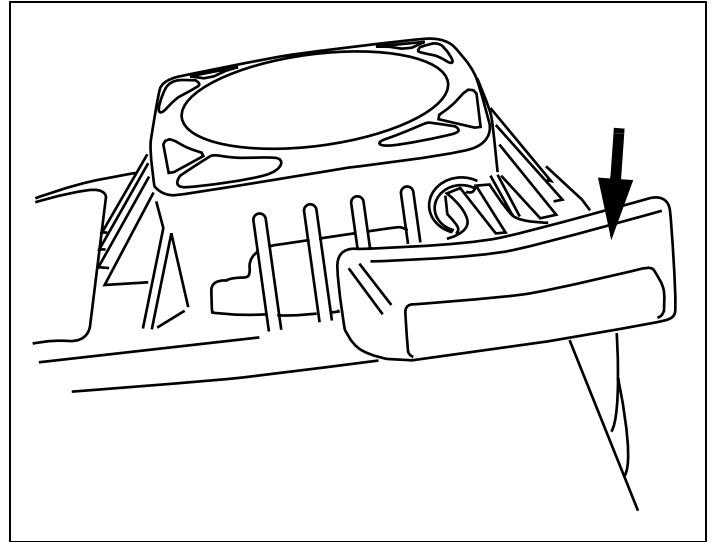

Figure 13. Starter Cord Handle Location
5. Grasp starter cord handle. See Figure 13.